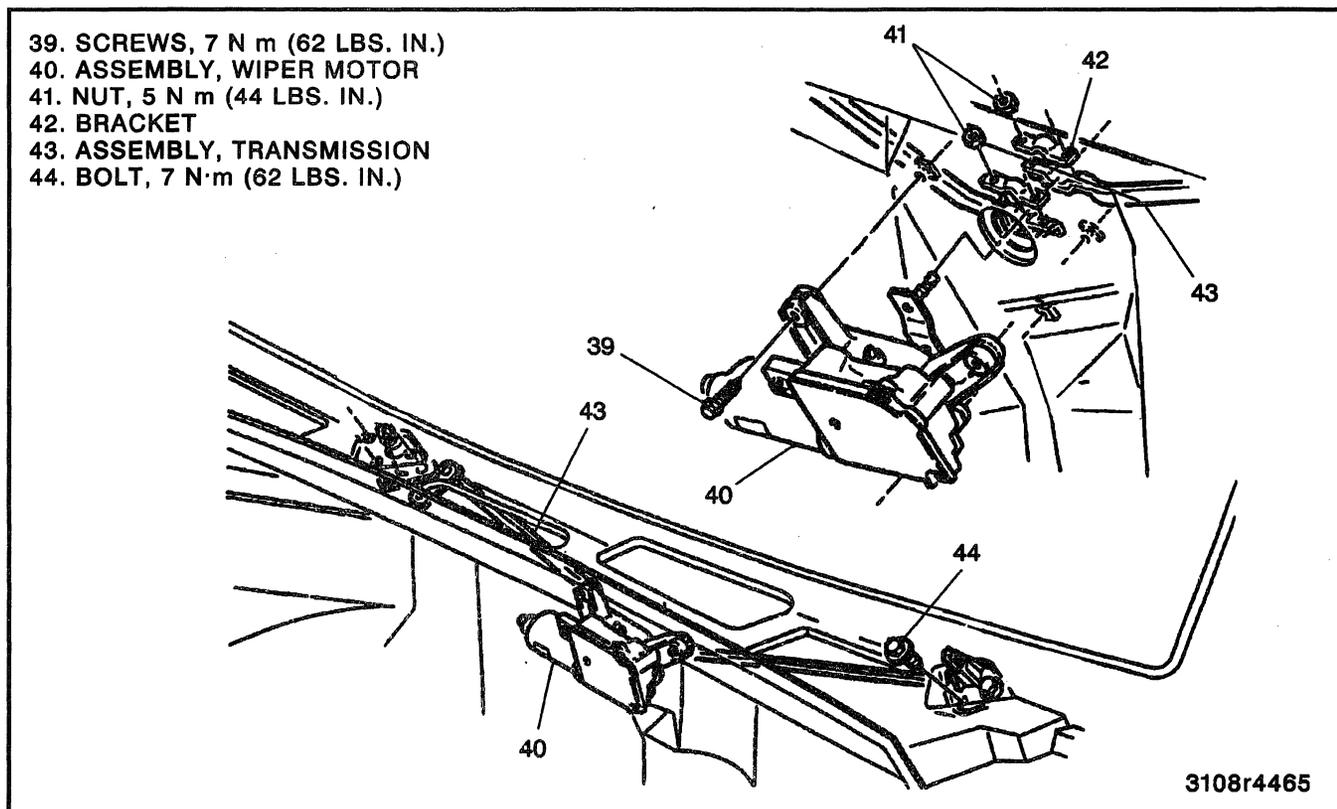

Figure 20—Wiper Transmission and Motor Assembly Replacement
### ↔ Remove or Disconnect (Figure 20)
### →← Install or Connect (Figure 20)
- Assemble the brackets in the order shown in figure 20. (Right side linkage closest to the wiper motor).